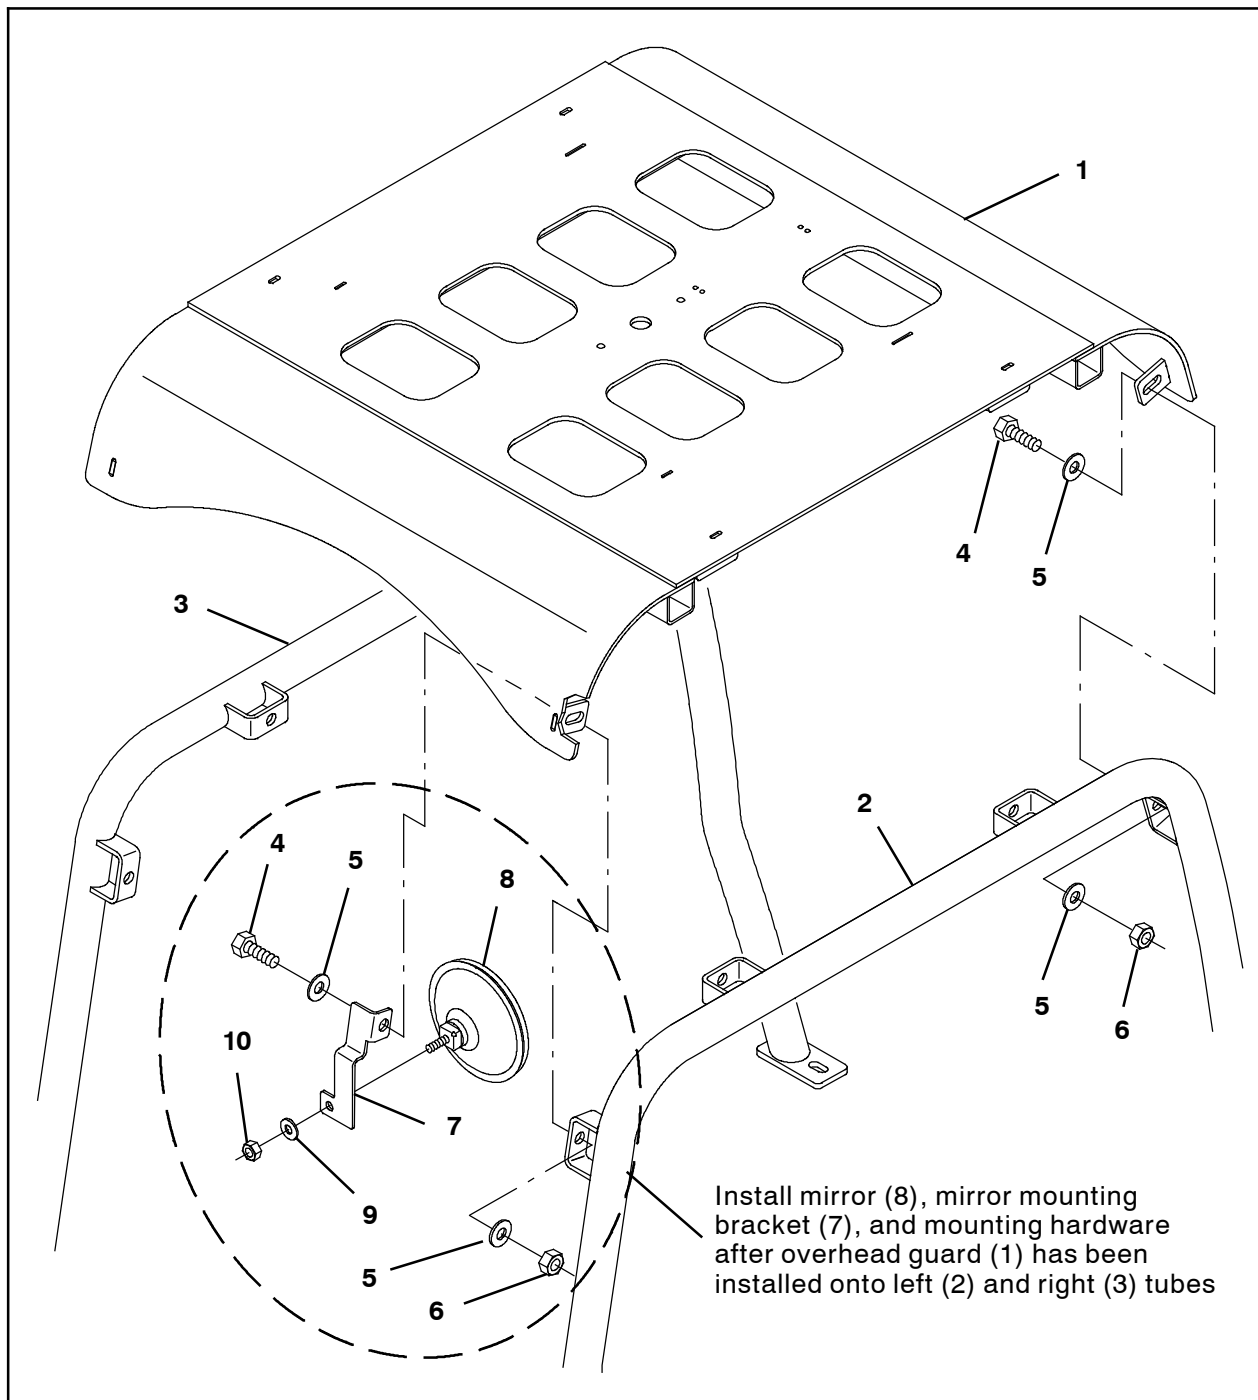

FIG. 8
7. Use seven hex screws (4), fourteen flat washers (5), and seven hex nuts (6) to install the overhead guard top onto the left overhead guard tube (2) and right overhead guard tube (3). Do not completely tighten the hex screws since it may be necessary to move the left overhead guard tube when installing the rest of the kit. (Fig. 8)
8. Use a hex nut (10) and flat washer (9) to the install the mirror (8) onto the mirror bracket (7). (Fig. 8)
9. Use a hex screw (4), two flat washers (5), and a hex nut (6) to install the mirror assembly onto the overhead guard assembly. (Fig. 8)